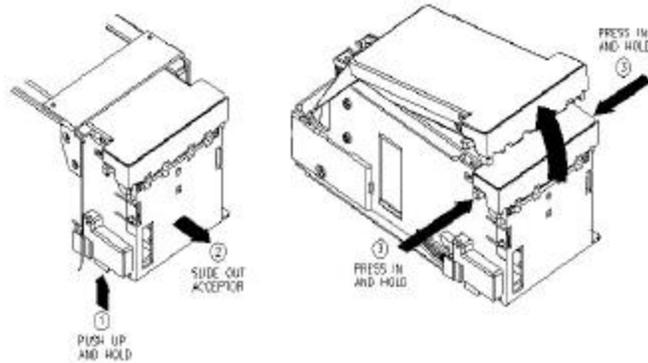

Figure 5-1 Removing and Opening Acceptor
2. Locate the release tab on the left side the acceptor. Press the tab upward, and while maintaining pressure on the tab, slide the note acceptor out of the chassis (Figure 5-1).